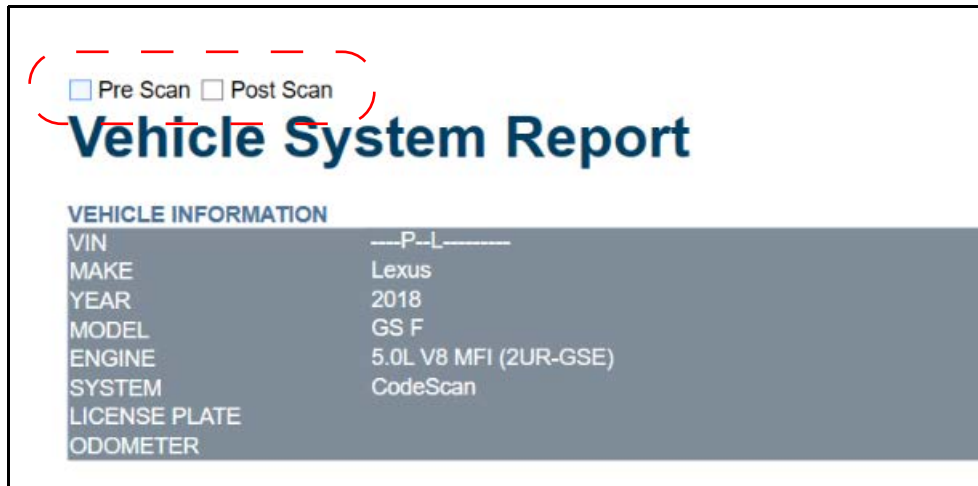

Figure 7-8
1. Double-click the code scan .XML file from the file list to open the Vehicle System Report (Figure 7-8) in the Code Scan Viewer.
2. Hover the cursor over the area shown in Figure 7-8, and select the desired option to add to the report header.